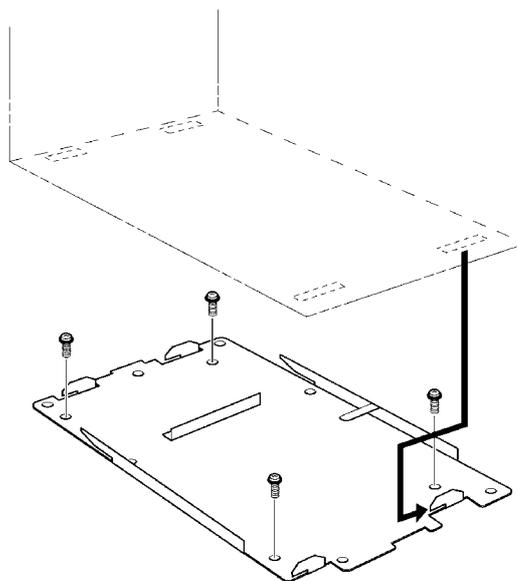

Figure 4-17 Floor Mounting the Basic KSU
2. Slide the KSU over the four hooks protruding from the floor mount bracket as shown in *Figure 4-17 Floor Mounting the Basic KSU*.